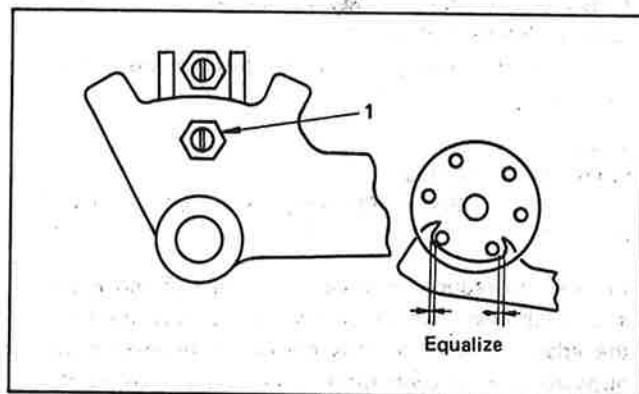

Fig. 3-4-9 1. Adjusting screw
2. In 2nd gear, check for proper centering. Change adjustment on screw as required. (Fig. 3-4-9)